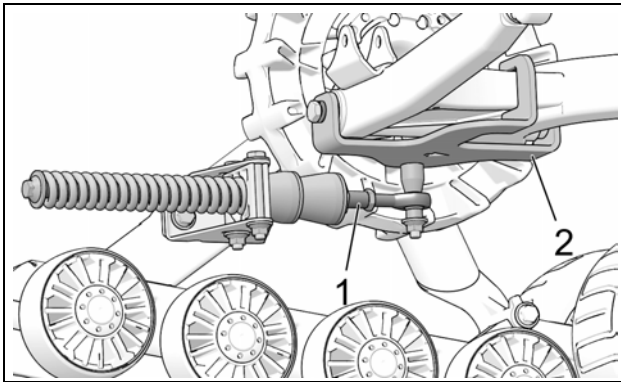

Figure 16
- Stabilizing arm (1) must be attached to rear anchor bracket (2) installed on vehicle. See Figure 16.